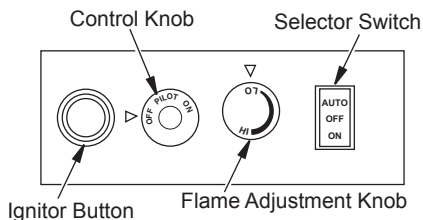

Figure 11 - Control Knob and Ignitor Button Locations
5. Wait five (5) minutes to clear out any gas. Then smell for gas, including near the floor. If you smell gas, STOP! Follow “B” in the safety information, page 10. If you don’t smell gas, go to the next step.
6. Press in and turn control knob counterclockwise ↻ to the PILOT position. Press in control knob for five (5) seconds (see Figure 11).